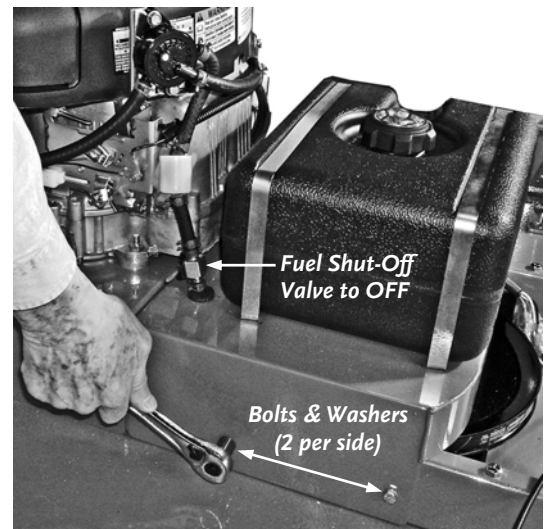

Figure 18
1. Turn the Fuel Shut-Off Valve to the OFF position (**Figure 18**).
5. Using a 1/2" Wrench or Socket, remove the four Bolts and Lock Washers that retain the Fuel Tank Mount (**Figure 18**).